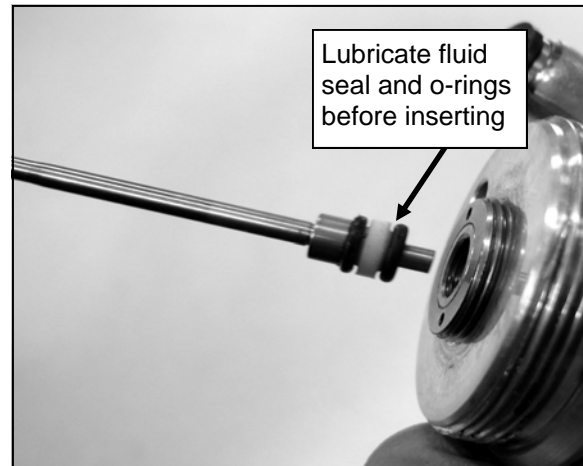

Figure 19
4. Again, using the same technique, place the second fluid seal and two o-rings into the fluid tube (See Figure 19).